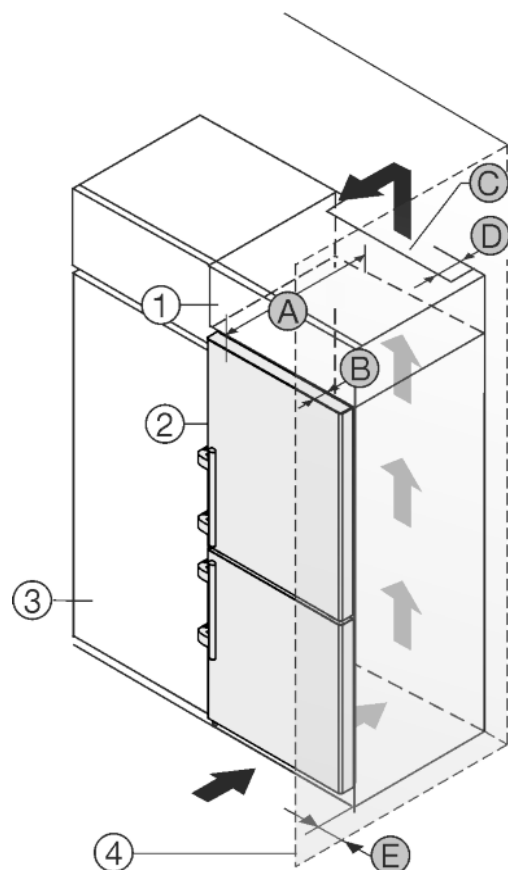

Fig. 47
The appliance can be built into kitchen units. A top cupboard *Fig. 47 (2)* can be added above the appliance in order to bring the appliance *Fig. 47 (1)* up to the height of the fitted kitchen units.
If the appliance is positioned directly next to a kitchen cabinet *Fig. 47 (3)*, a distance of at least 5 cm from the appliance is necessary. The appliance must protrude by the depth *Fig. 47 (B)* from the front of the cabinet so that the doors can be opened fully. The appliance may protrude further depending on the depth of the kitchen cabinets and whether wall spacers are used.
- At the back of the top cabinet, there must be an air outlet shaft with depth *Fig. 47 (D)*, spanning the entire width.
- The ventilation shaft *Fig. 47 (C)* must be observed under the ceiling.
If the appliance is installed with the hinges next to a wall *Fig. 47 (4)*, the distance *Fig. 47 (E)* between the appliance and the wall must be observed. This is how far the handle protrudes when the door is open.